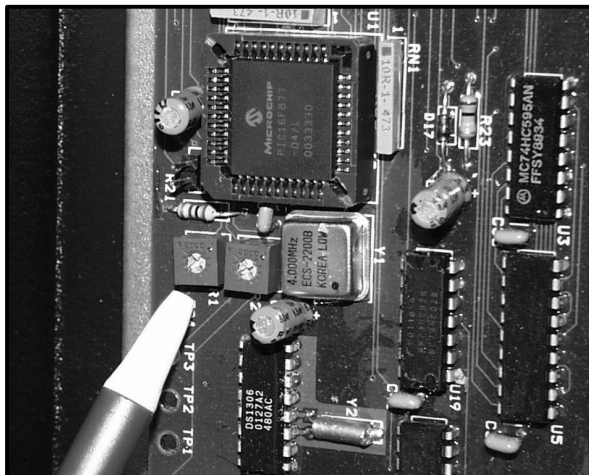

Figure 23
3. Turn the potentiometer to the required setting. See Figure 23.